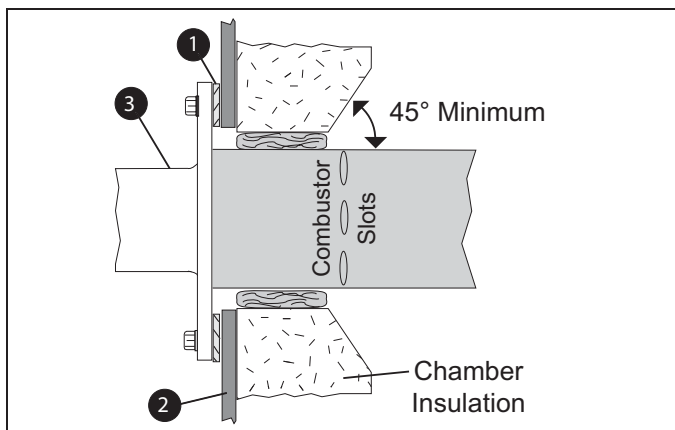

Figure 3.3 Chamber Wall
Make sure the chamber wall ② is strong enough to support the weight of the burner ③. If necessary, reinforce the mounting area. See Figure 3.3.